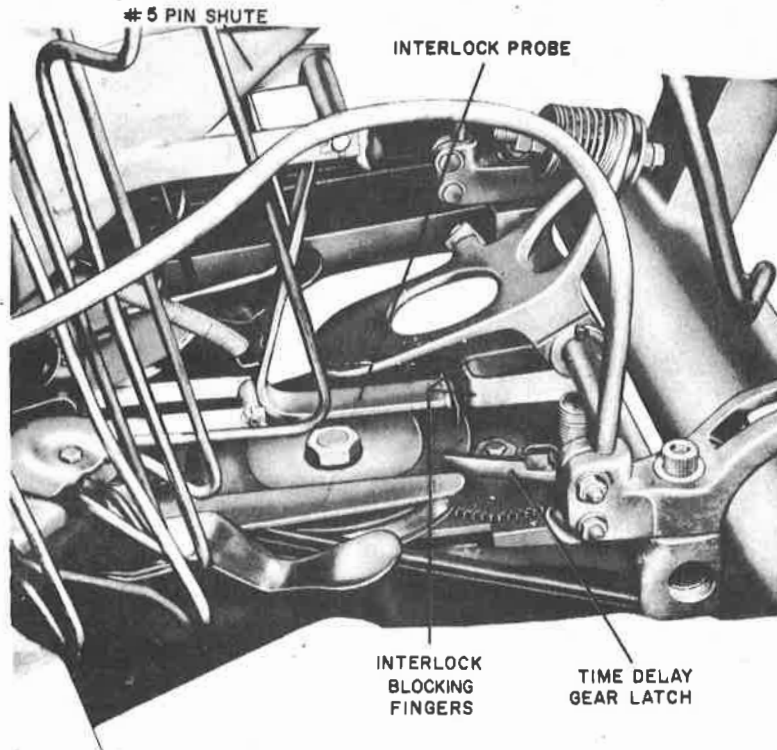

Figure 93. Turret Interlock Probe Adjustment
40. TURRET INTERLOCK PROBE ADJUSTMENT. (FIGURE 93)